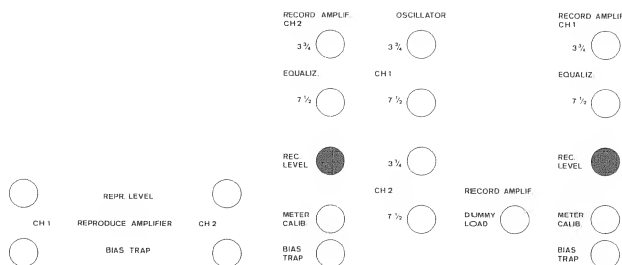

Fig. 6.5–72
- Switch to NAB and adjust REC LEVEL trimpots (fig. 6.5–72) to obtain 200 mV at OUTPUT terminal, playback mode switch to CH 1 or CH 2 respectively.